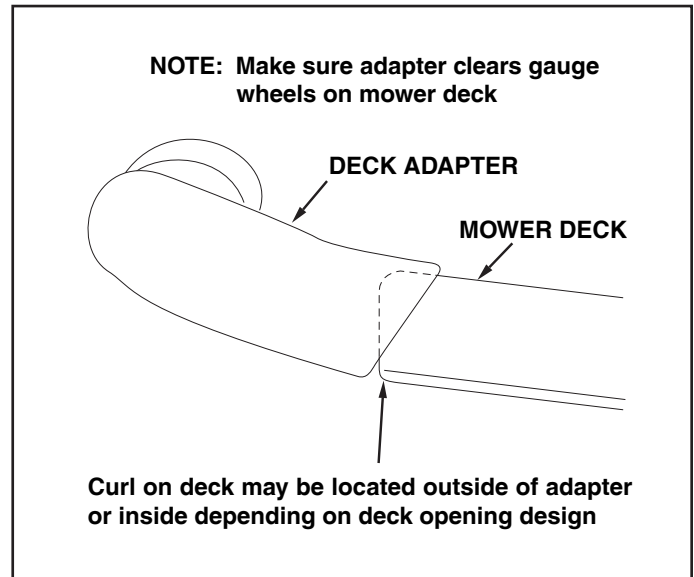

FIGURE 30
5. Position the adapter over the deck opening, and check for fit of cutout as shown in figure 30. Trim cutout, if necessary, to allow tilting of adapter, keeping the fit as close as possible for best vacuum suction.